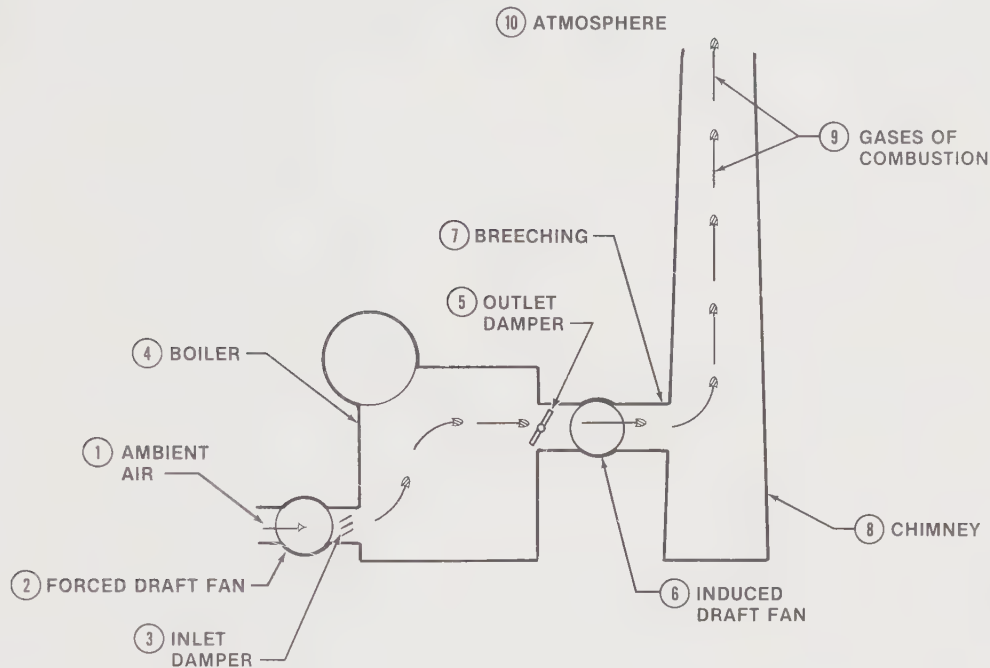

Figure 3-14. Combination forced and induced draft allows more effective control of combustion for maximum efficiency in large plants.
Combination forced and induced draft systems are often used in large steam plants. See Figure 3-14. In this system, ambient air (1) is drawn through the forced draft fan (2) and is discharged into the boiler (4). The rate of air flow is controlled by the inlet damper (3).